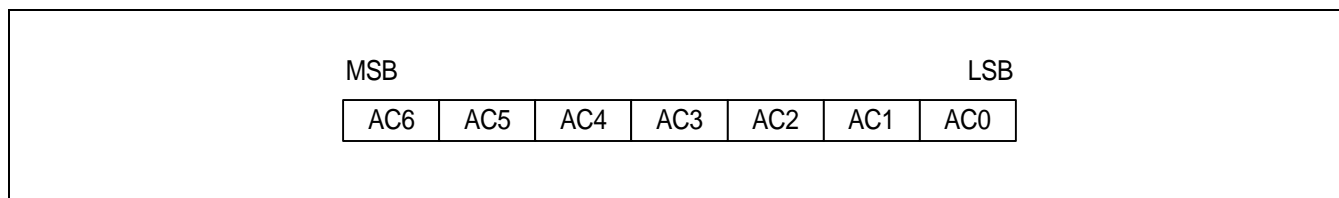

Figure 1. DDRAM Address
DDRAM stores display data of maximum 80 x 8 bits (80 characters). DDRAM address is set in the address counter (AC) as a hexadecimal number. (refer to Figure1.)